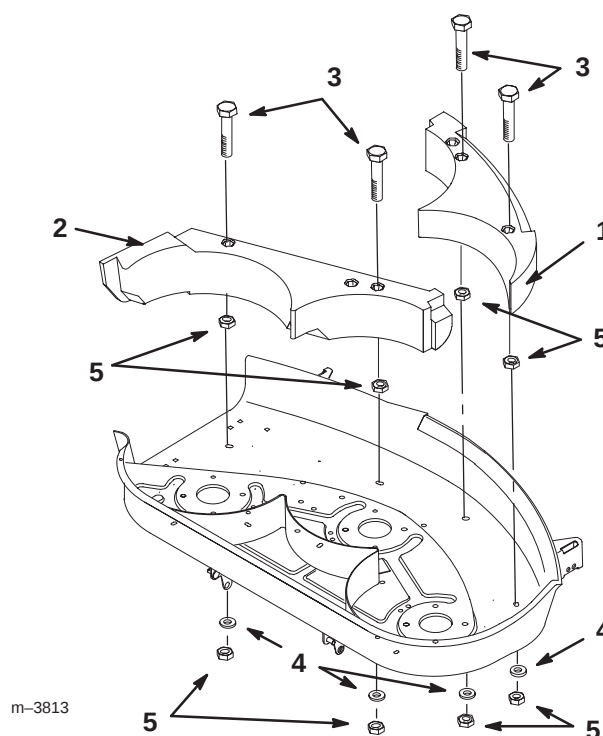

Figure 15
2. Place the left side baffle and the right side baffle inside the cutting chamber so the extended lugs are interlocked. Secure them with 4 locknuts (5/16 inch) and 4 lock washers (Fig. 15).